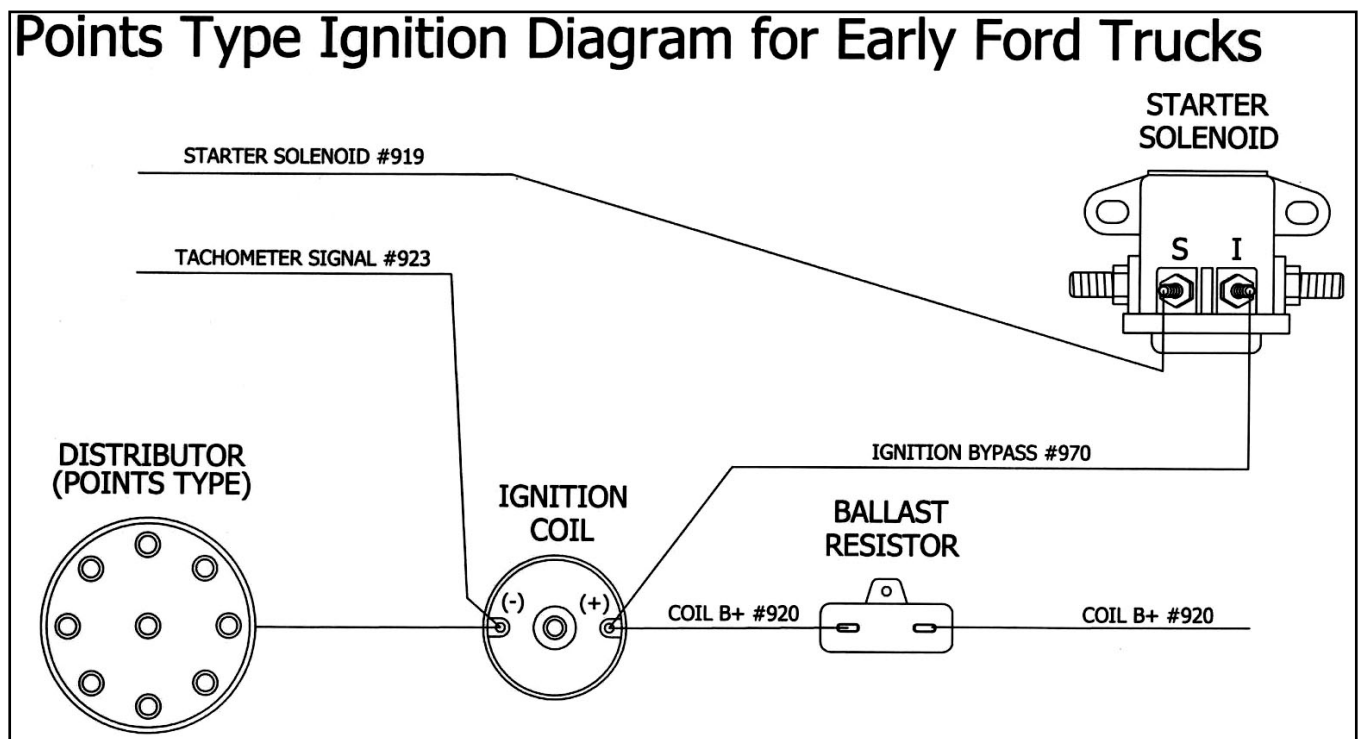

Figure 7-8 Points Style Ignition Diagram
Points: Steps 7.3.1 thru 7.3.3 and Figure 7-8
- 7.3.1** Connect ENGINE SECTION wire red/green #920 to one side of the ballast resistor. Using the remainder cut off of red/green #920; connect the other side of the ballast resistor to the positive post on the ignition coil. A ballast resistor is included in the parts kit. Be sure to mount it away from anything sensitive to heat, because it gets very hot. **See Figure 7-8.**
- 7.3.2** Connect ENGINE SECTION wire brown #970 directly to the positive post on the ignition coil or the coil feed side on the ballast resistor. The other end is to be connected to the "I" terminal on the starter solenoid. **See Figure 7-8.**
- 7.3.3** Connect ENGINE SECTION wire red/blue #919 to the "S" terminal on the starter solenoid. If using a Tachometer, connect ENGINE SECTION wire red/yellow #923 to the negative side of the ignition coil. **See Figure 7-8**